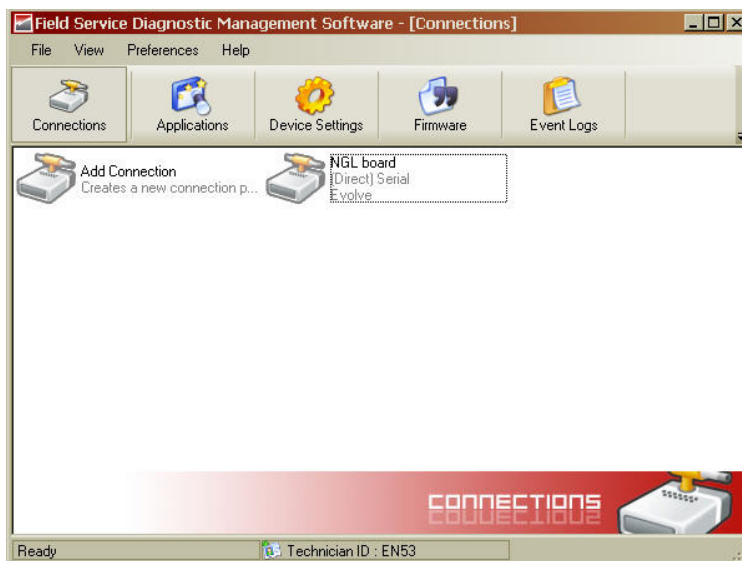

Figure 22X* A New Connection Added**
1. Using the DMS tool, connect to the TR4215 board. Figure 22X*** (23?) shows the opening screen with the Network view expanded to show all devices.